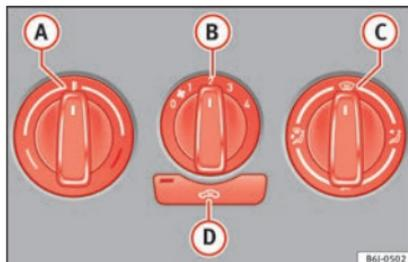

Fig. 165 Heating controls on the dash panel.
- Use turn controls ①, ② and ③ » Fig. 165 to adjust the temperature, blower speed and air distribution.
- Press the ④ button to switch air recirculation mode on or off. When the function is activated, a warning light on the button is turned on.
- Press button **(D)** » Fig. 165 and the lamp in the button will illuminate.
If the rotary switch **(C)** » Fig. 165 is in the thaw position, the recirculation flap will always be open and air will always enter from the outside.
- Turn the temperature selector » Fig. 165 **(A)** anticlockwise.
- Turn the temperature selector » Fig. 165 **(A)** clockwise to select the desired temperature.
- Turn the temperature selector » Fig. 165 **(A)** clockwise to reach the maximum temperature.
- Open and turn outlet (4) towards the side windows.
- Turn the temperature selector »» Fig. 165 (A) to the heating area.
- Turn blower switch (B) to any of the head settings 2 -3.
- Close outlets (3)
- Open and turn outlets (4) towards side windows.